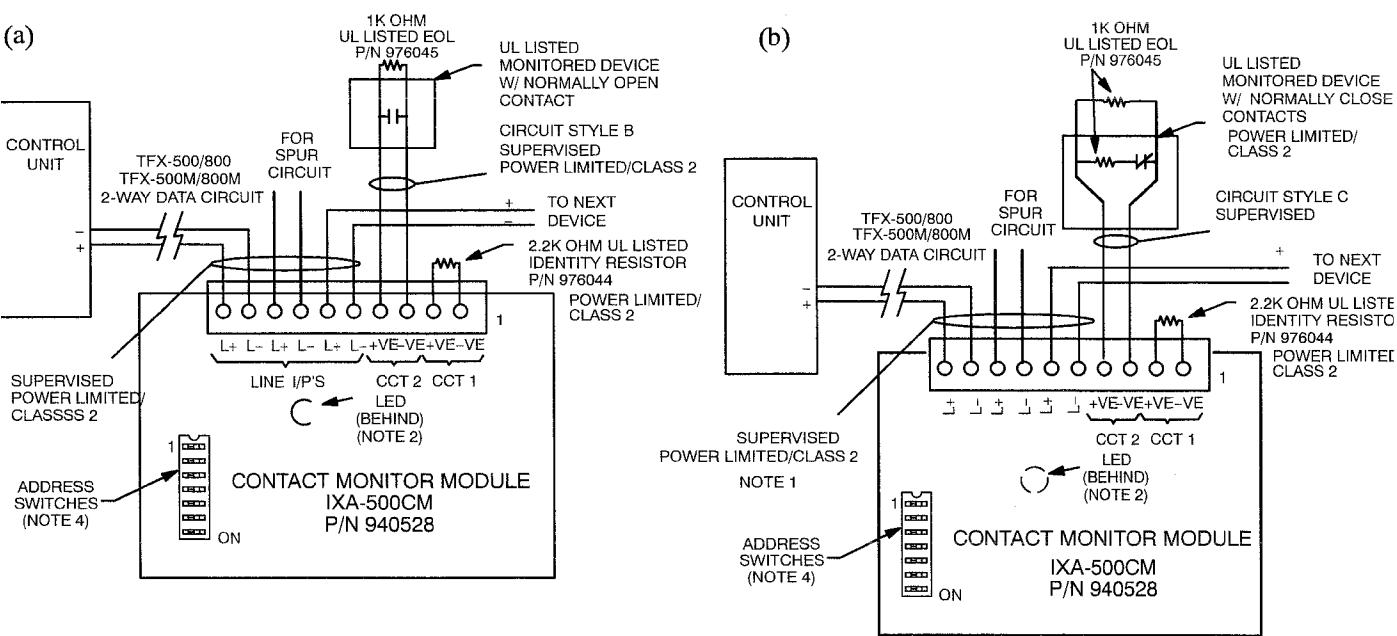

Figure 2. Typical wiring configurations (a) Normally Open Contact Style B Initiating Circuit, (b) Normally Closed Contact Style C Initiating Circuit.
8. Install the EOL resistor (1 k-ohm, UL listed, P/N 976045, supplied) into the circuit of the monitored contact device (see Figure 2).